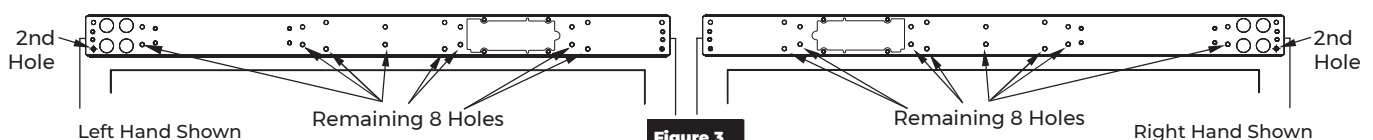

Figure 3
4. Ensure backplate is aligned with door frame. Using the backplate as guide, mark and drill second mounting hole. (Figure 3)
6. Using backplate as a guide, drill and tap remaining eight (8) holes in frame. (Figure 3)
7. Secure with eight (8) screws and tighten.
8. **For concealed wiring:** Using the backplate as a guide, mark and pre-drill two (2) conduit holes with the 3/16" drill. Then use the Ø7/8" hole saw or equivalent to drill two (2) conduit holes.